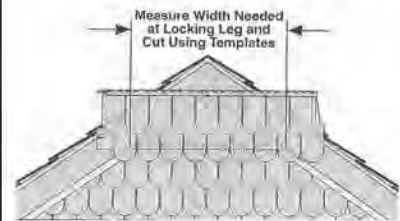

Fig.29
- Measure width needed at bottom lock (see Figure 29).